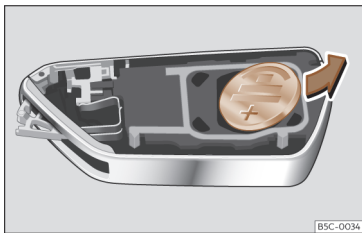

Fig. 67 Vehicle key: removing the battery.
- Remove the battery from the compartment with a suitable fine object >>> Fig. 67.
- Insert the new battery and press it into the battery compartment >>> ③.